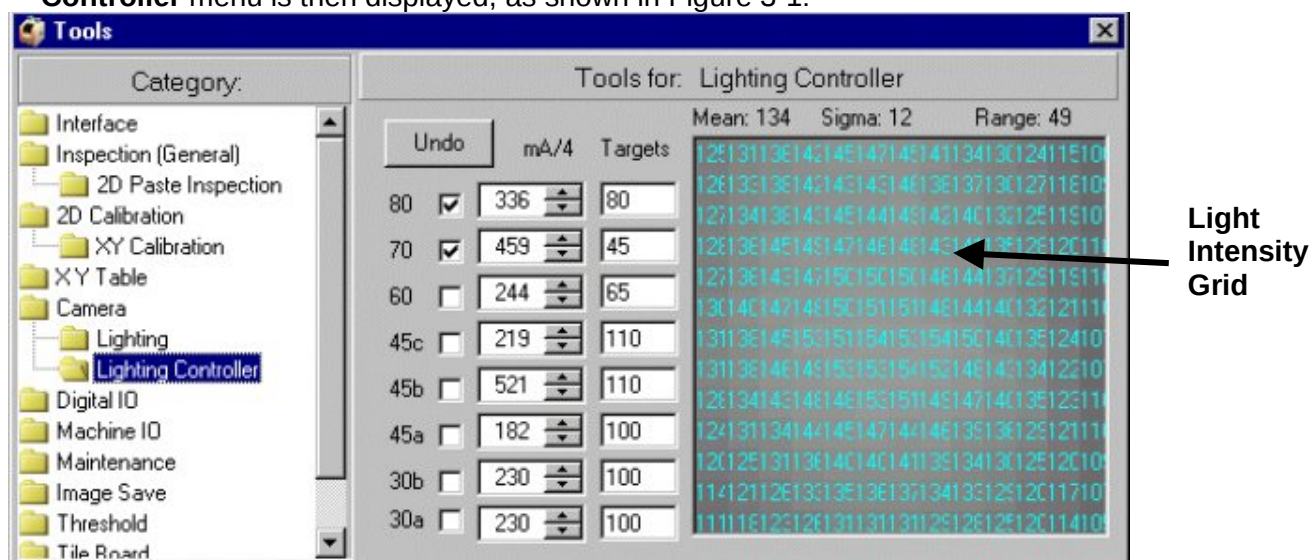

Figure 3-1 Tools -> Lighting Controller Menu
2. Click **Camera -> Lighting Controller** in the **Category** section. The **Lighting Controller** menu is then displayed, as shown in Figure 3-1: